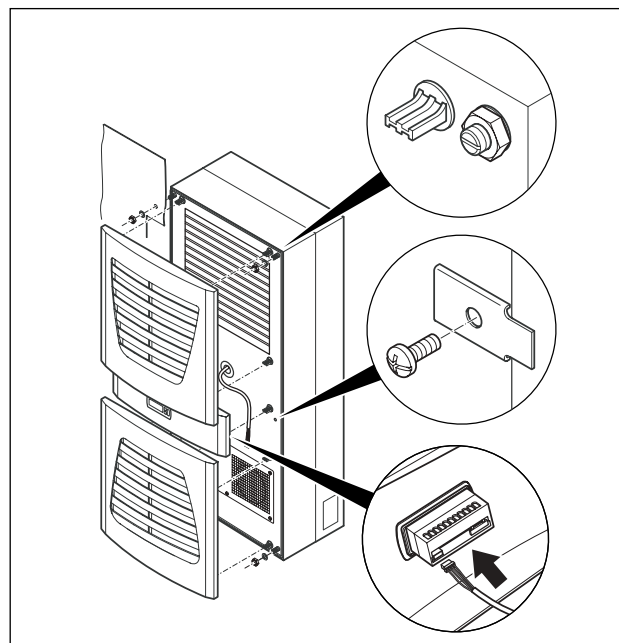

Fig. 17: Secure the cooling unit
- Where necessary, additionally secure the unit using the supplied mounting plates as shown in Fig. 17.